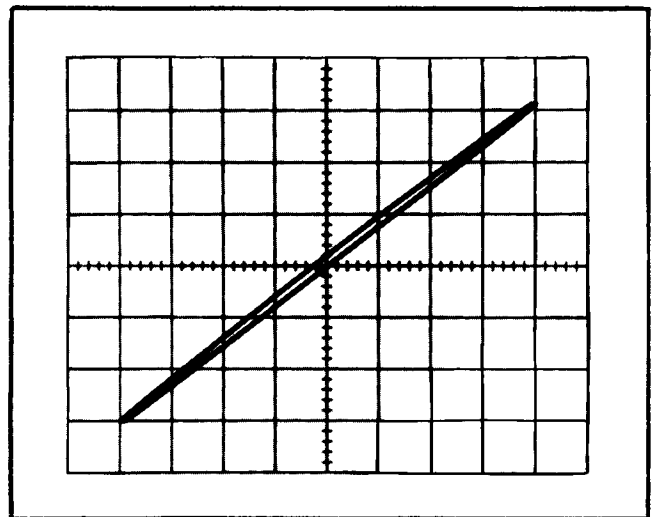
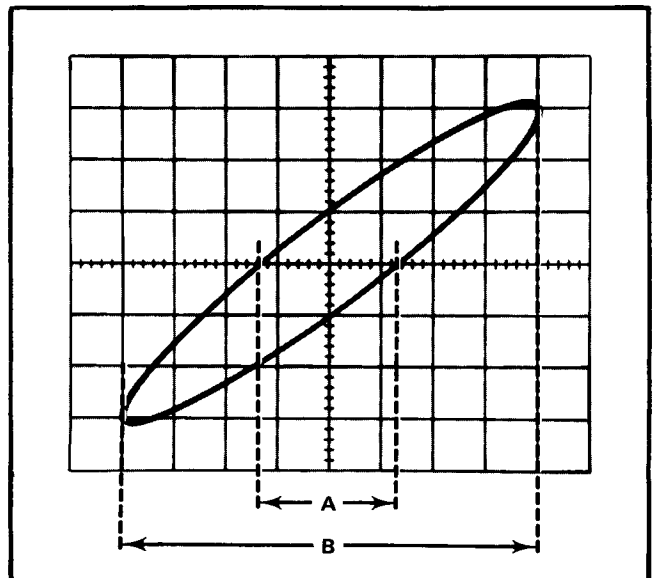

Fig. 2-16. X-Y display showing phase shift.
Fig. 2-17. Phase-difference measurement from an X-Y display.
3. Connect the same signal to both EXT VOLTS IN connectors. Use the Amplifier VARIABLE controls to obtain a display less than 8 divisions vertically and less than 10 divisions horizontally. Measure and record the inherent phase shift for the oscilloscope system being used. See Fig. 2-16.
5. Center the display in relation to the vertical graticule line. Measure the distances A and B as shown in Fig. 2-17. Distance A is the horizontal measurement between the two points where the trace crosses the center horizontal reference line. Distance B is the horizontal width of the display.
Example. The phase angle shown in Fig. 2-16 is approximately 2° and in Fig. 2-17 the phase angle is 18° .